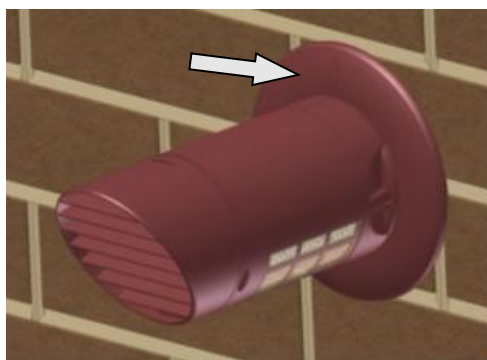

Figure 21
15. Finish the external wall with the cover bezel (Figure 21) fixing it to the wall with a sealant suitable for the type of support.